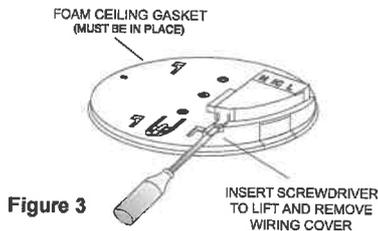

Figure 3
3. Lift off the wiring cover as shown in Figure 3.